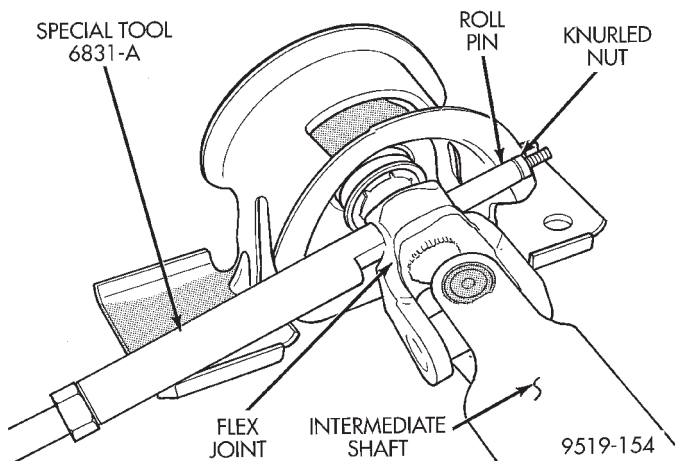

Fig. 22 Tool Set-Up For Installing Flex Joint Roll Pin
(2) Install steering coupler on steering shaft until correctly positioned to allow spring pin to be installed in coupler.
(3) Install Puller, Special Tool 6831-A through center of roll pin and install knurled nut (Fig. 22).
(4) Using Puller, Special Tool, 6831-A, (Fig. 22) install roll pin into the coupler until spring pin is fully installed through both sides of the coupler assembly.